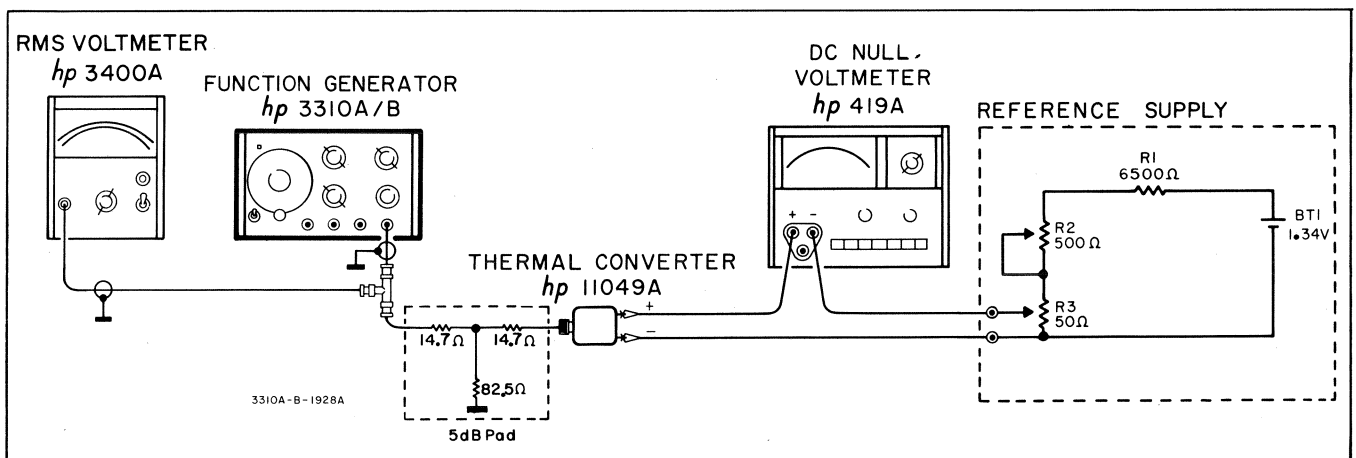

Figure 5-1. Frequency Response Check.
- a. Connect equipment as shown in Figure 5-1 and set the coarse control (R3) to minimum resistance.